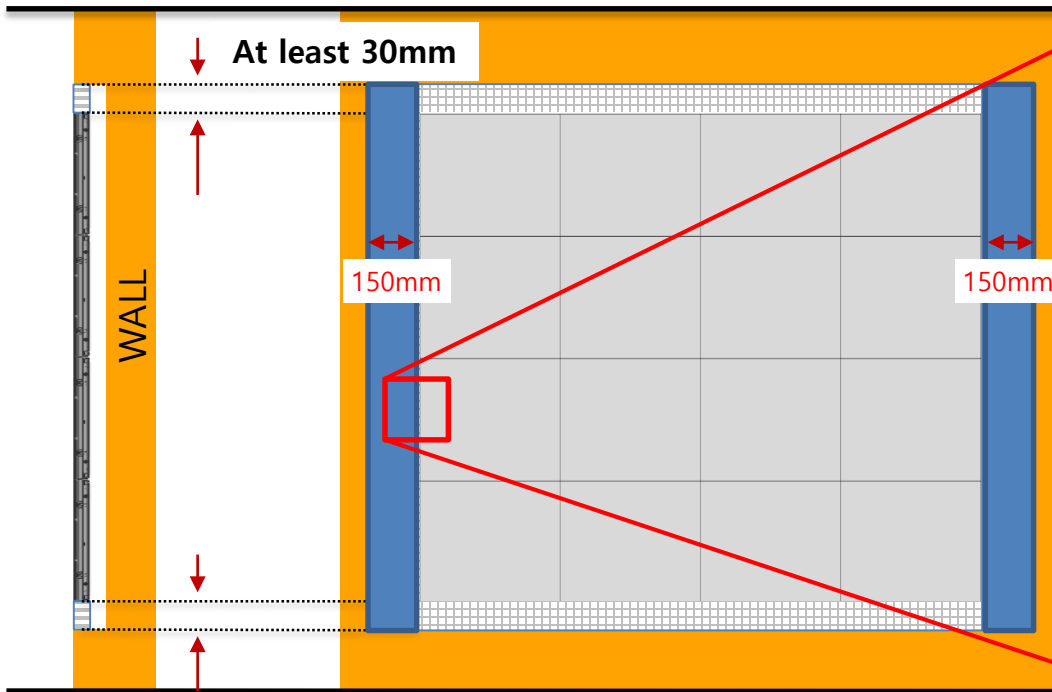

Fig.1 Secure 150mm of left and right space for serviceability
- 150mm left and right space required for serviceability. (Fig.1)